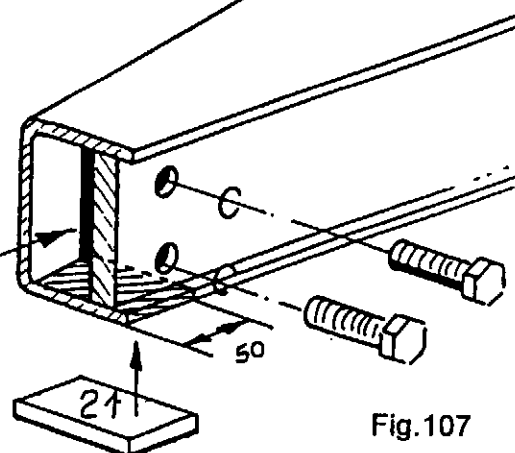

Fig.107
Cut of a 2" section (= 50 mm) from the lower part of the U-section as shown in fig. 107 and reinforce this area by installing a 0,5" (12 mm) thick plate (21). The 0,6" (16 mm) plate (22) must foul the top and bottom part of the U-section.